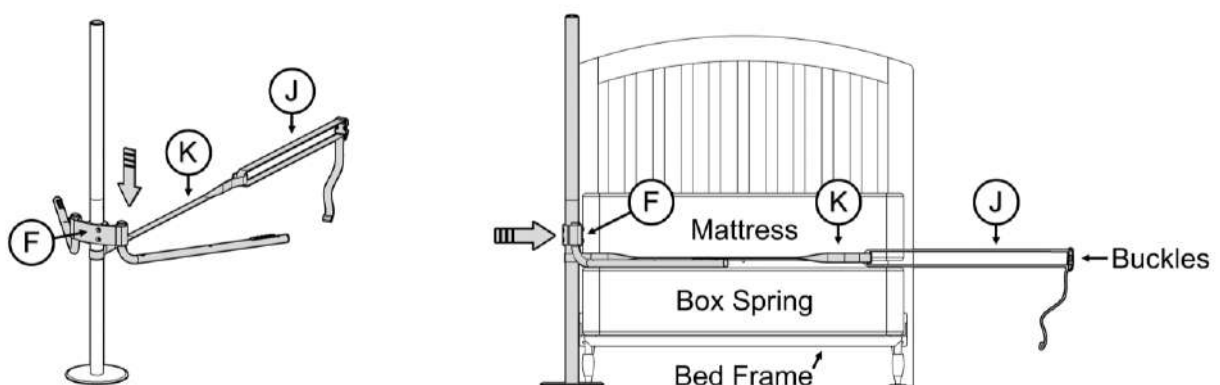

FIGURE 5
5. First, put free loop of **K** over top of pole and slide down. Place **F** with legs attached over top of pole and slide down. Twist the assembly if needed to help it slide down. **K** should be under **F**. Place legs directly on box spring or bed frame. Push entire assembly so that there is no gap between **F** and mattress. Pull buckles on **J** to opposite side of bed. **FIGURE 5**